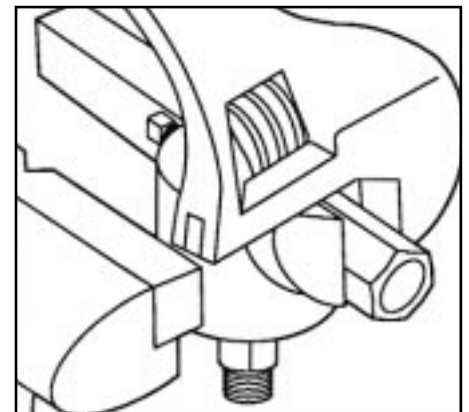

Figure 45
6. Clamp the fluid cylinder in a bench vise, and use the adjustable wrench to remove the discharge check valve from the cylinder. (Fig.45)